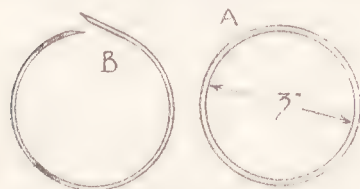

Fig. 2—The rings
The rings may be bought at a toy or sport shop. They are of rubber, about the best material for such a purpose, being silent in action. If any difficulty is experienced in getting these rings, then it is not a great matter to make a set for oneself. They can be cut from plywood, with an internal diameter as at (A) in Fig. 2, and external one of $3\frac{1}{2}$ ins., not more. These are, however, rather noisy when striking the board, and a good plan to silence them is to wind a thin cord or twine round them.
If you can get a piece of thick rubber, say, about $\frac{1}{2}$ in., then good rings can be made by cutting a strip $1\frac{1}{2}$ ins. wide and long enough to make the rings, plus $\frac{1}{2}$ in. for the joint. Scarfe the joint as at (B) in Fig. 2, and cement together with rubber solution, binding it until the solution is safely set. This can be cut into six slices